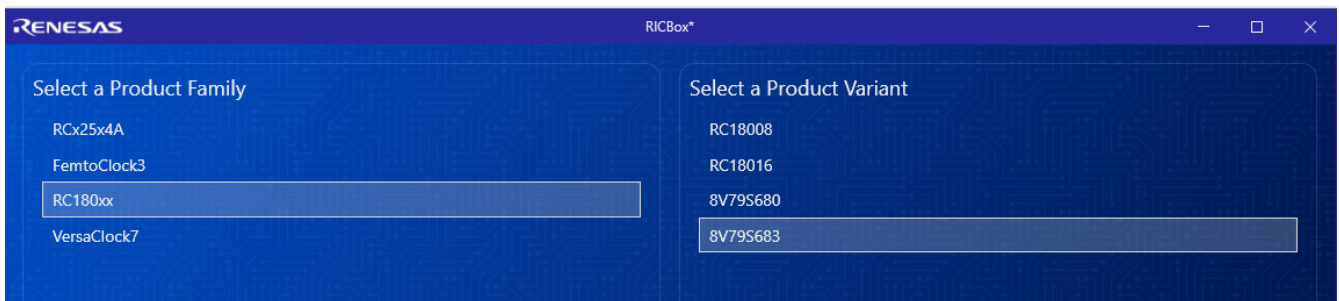

Figure 14. Selecting 8V79S683 Device GUI in RICBox
4. Select *RC180xx* from the “Select a Product Family” list (see Figure 14).